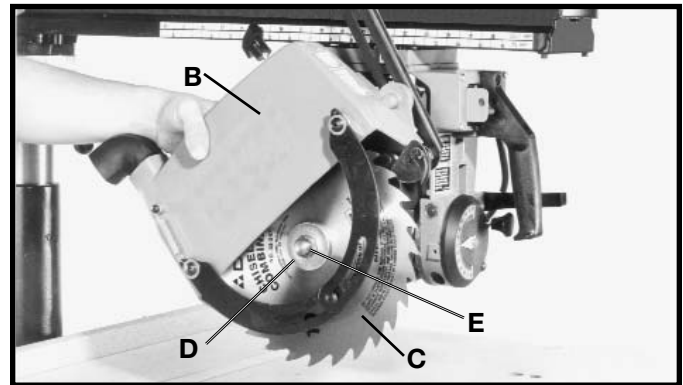

Fig. 45
3. With the blade guard (B) Fig. 45, in the left hand, insert saw blade (C) into the blade guard (B) and onto the arbor shaft.
4. Assemble the outside (thin) blade flange (D) Fig. 45, with the recessed side of flange (D) facing in and arbor nut (E) onto the arbor shaft. **NOTE: ARBOR NUT (E) FIG. 45, HAS A LEFT HAND THREAD.**